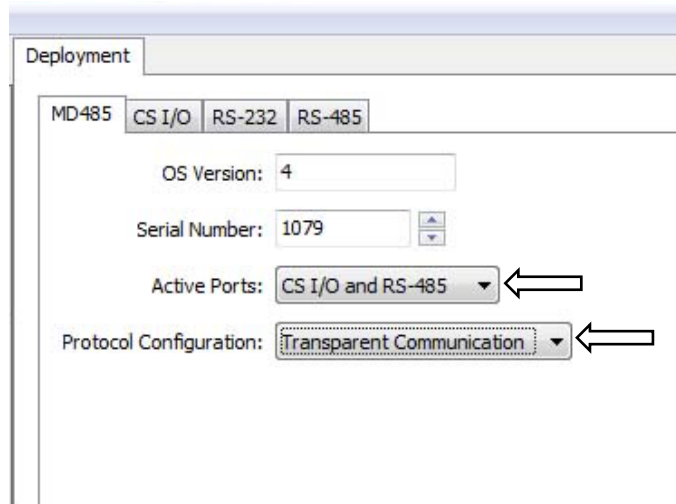

FIGURE C-2. MD485 Deployment tab
4. Click the **MD485** tab. Select *CS I/O* and *RS-485* in the **Active Ports** box. Select *Transparent Communication* in the **Protocol Configuration** box (FIGURE C-2).